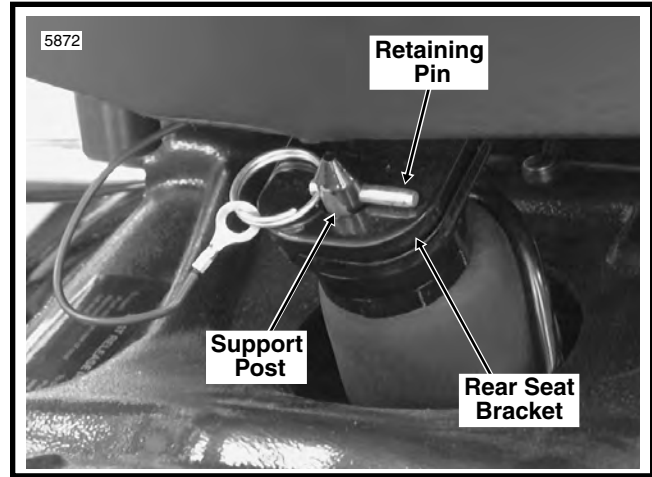

Figure 16. Solo Seat
1. Standing on left side of vehicle, press down on rear of seat and pull retaining pin from hole in support post. See Figure 16. Raise seat toward fuel tank console.